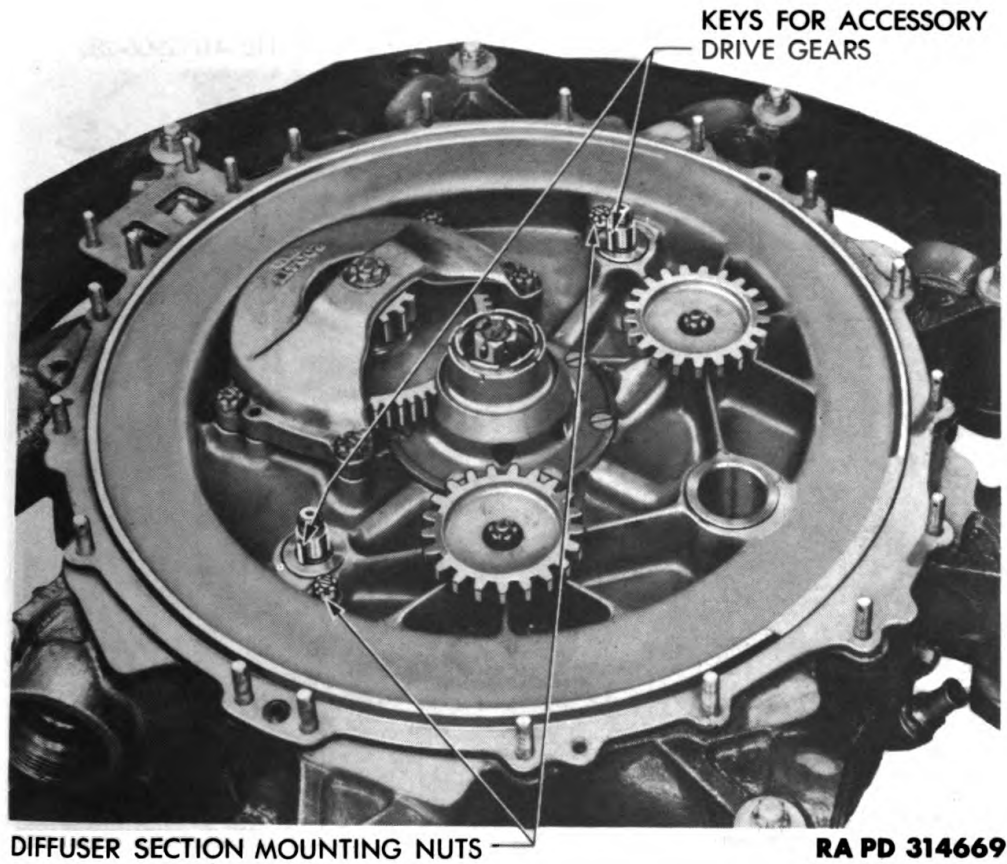
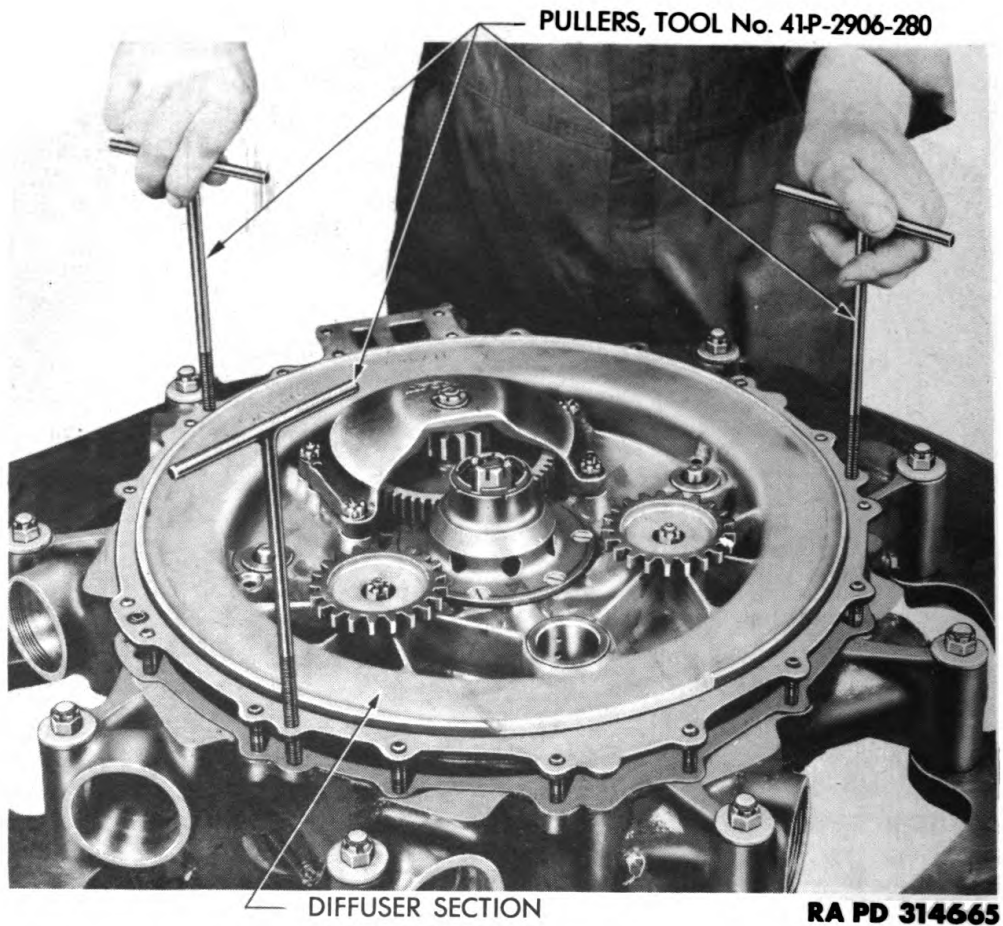

Figure 80 – Diffuser Section Mounting Nuts
Figure 81 – Separating Diffuser Section from Rear Section
c. Removing Diffuser Section from Rear Crankcase Section. Remove cotter pins from two nuts by accessory drive gear shaft which hold diffuser section to rear crankcase section (fig. 80). Remove nuts and flat washers. Install three pullers (41-P-2906-280) through tapped holes in diffuser section flanges (fig. 81). Turn pullers, and separate diffuser and rear crankcase sections. Perform this operation